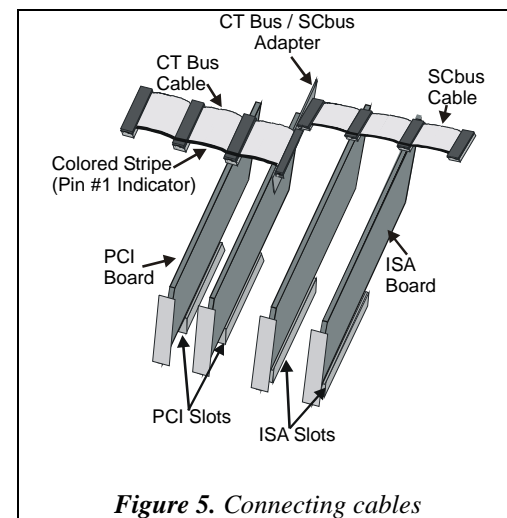

Figure 5. Connecting cables
- **CT Bus Mode (CT Bus Cable Needed):** Attach the CT Bus cable to the Dialogic boards as shown in *Figure 5* and described in the following instructions if the boards use the CT Bus (the application program controls resources on the boards through time-slot routing).